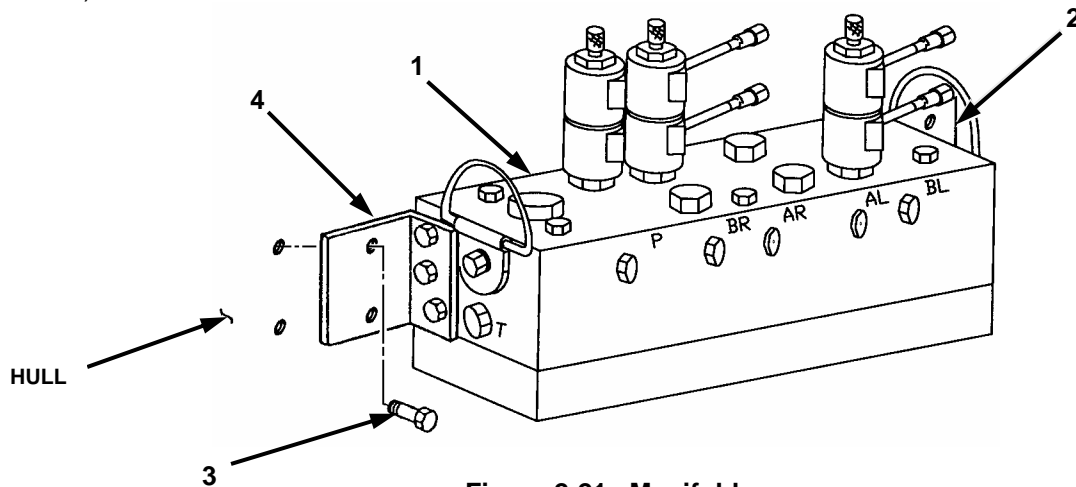

Figure 2-21. Manifold.
17. Attach front manifold mount (Figure 2-21, 4) and track and blade manifold (1) with screw B1821BH050C100N (3) and screw retained from Section V, step 14, to two front holes on hull wall. Torque to 45.0 to 50.0 lb-ft (200.1 to 222.4 N•m).